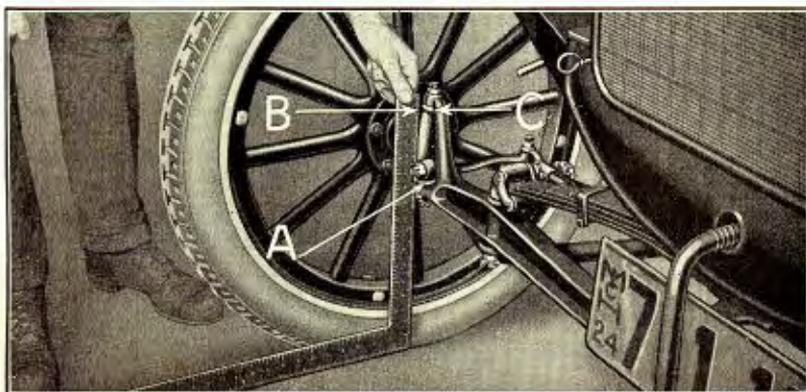

Fig. 119
- 147 The front axle should have a $5\frac{1}{2}^{\circ}$ pitch toward rear of car. To check the pitch, place the car on a floor having a level surface. A square is then positioned with one edge on the floor and the other edge resting against lower spindle body bushing in front axle (See "A" Fig. 119).